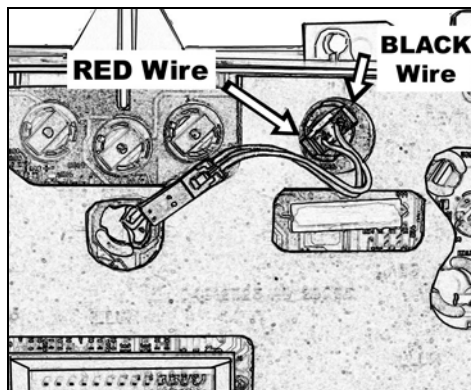

Figure 10
10. Install the Lamp Socket Connector into the empty illumination socket on the circuit board to the right of center on the rear of the cluster as shown in figure 10. The lamp connector **MUST** have the **Red Wire** side facing down towards the bottom of the cluster when installing.